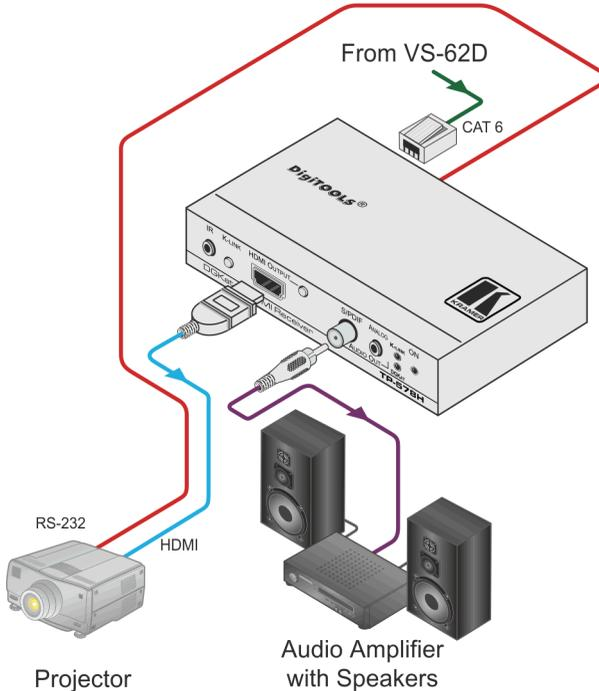

Figure 3: Connecting the TP-578H DKGat to HDMI Receiver
To connect the TP-578H as illustrated in the example in Figure 3:
5. Connect the power adapter to the **TP-578H** (see Section 3.2) and to the mains electricity (not shown in Figure 3).